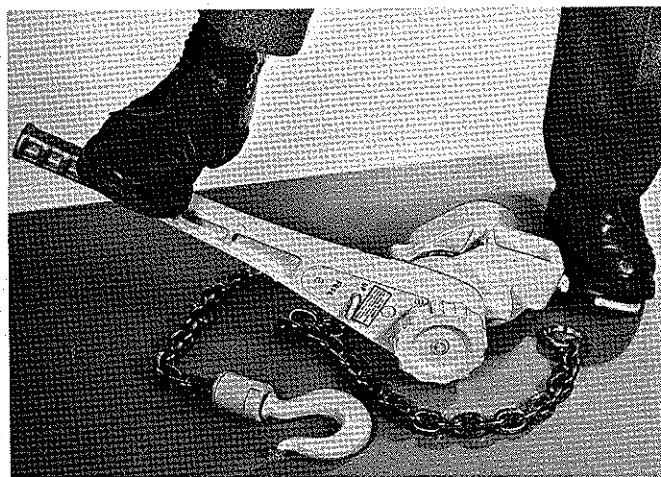

Figure 2-6. Stepping on Operating Handle to Unlock Brake
b. If operating handle works in "UP" direction but not in "DOWN" direction, the load brake is locked-up from previous load. This happens when pulling a tree stump, skidding a heavy machine, or similar jobs where it is unnecessary to relieve the load to detach the 'Tugit' from the load. To correct this condition, place the 'Tugit' on the ground or floor on its side, as shown in Figure 2-6, and strike the handle a sharp blow with your foot. The brake will then unlock. NOTE: The finger-tip lever must be in the "DN" position.